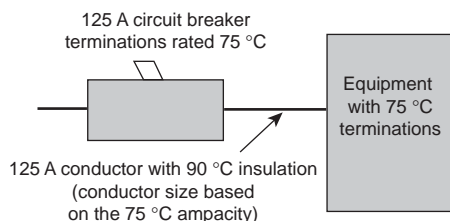

Figure 8: Conductors with Higher Temperature Ratings
- b. Conductors with higher than 75 °C ratings provided the conductor ampacity does not exceed the 75 °C ampacity of the conductor size used (see Figure 8). This condition also permits the conductors to be used at ampacities higher than 75 °C if the equipment is listed and identified for the higher rating. However, for equipment rated 600 V and less, there is no listed equipment with termination ratings above 75 °C.